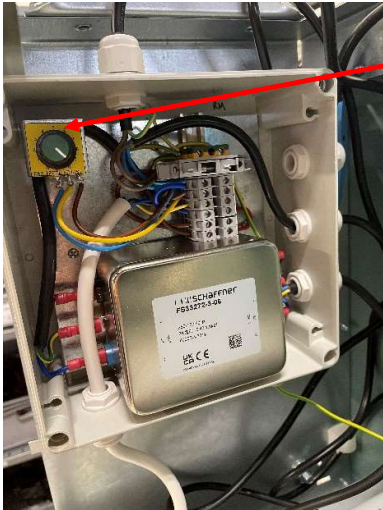
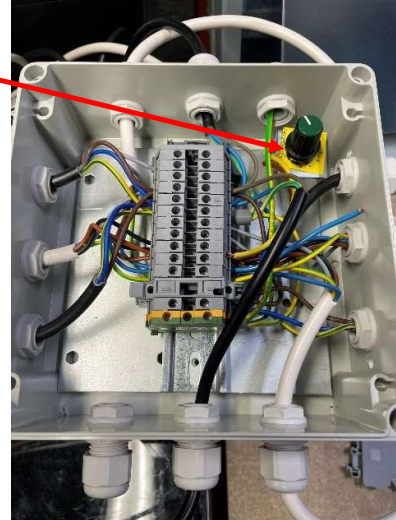

Fig 12
Fig 13
Set a suitable fan speed by adjusting the EC speed potentiometer (see Fig 12 CS Fig. 13 CS MAX) to suit outdoor environmental conditions and indoor noise levels.
- Fan speed changes in accordance to the speed dial fixed within the unit (as shown in Fig 12 & 13).